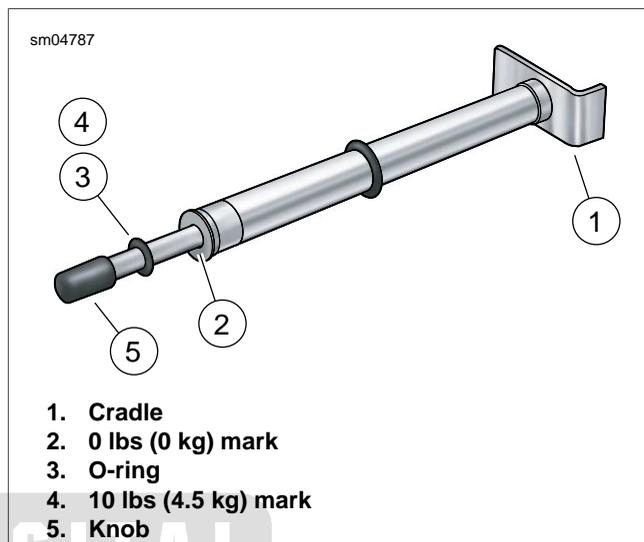

Figure 1-20. Belt Tension Gauge (Part No. HD-35381A)
2. See Figure 1-20. Obtain BELT TENSION GAUGE (Part No. HD-35381A).